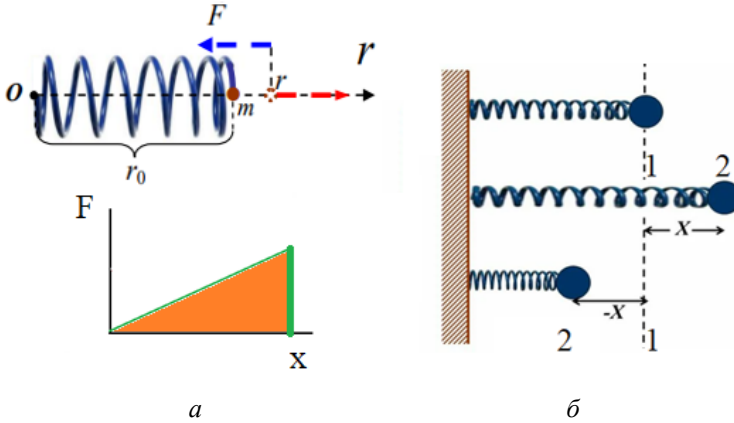

Fig. E.1. A spring under an elastic force obeying Hooke's law
2. A body of mass m is attached to a spring (Fig. E.1). In the equilibrium position, a body of mass m is located at a distance r_0 from the origin O. When the spring is stretched, an elastic force acts on the body according to Hooke's law $\vec{F} = -k\vec{r}$ (Fig. E.1, *a*). Let us determine the work required to stretch the spring by a distance x (Fig. E.1, *b*), using the general definition of work and considering that the elastic force F depends on the distance $F = kx$:
way to determine the work done by elastic forces, or the energy stored when compressing a spring, is to use a graph of force versus spring displacement (Fig. E.1, *a*). The area of the figure enclosed by the force graph and the abscissa axis (x-axis) will be numerically equal to the spring energy.